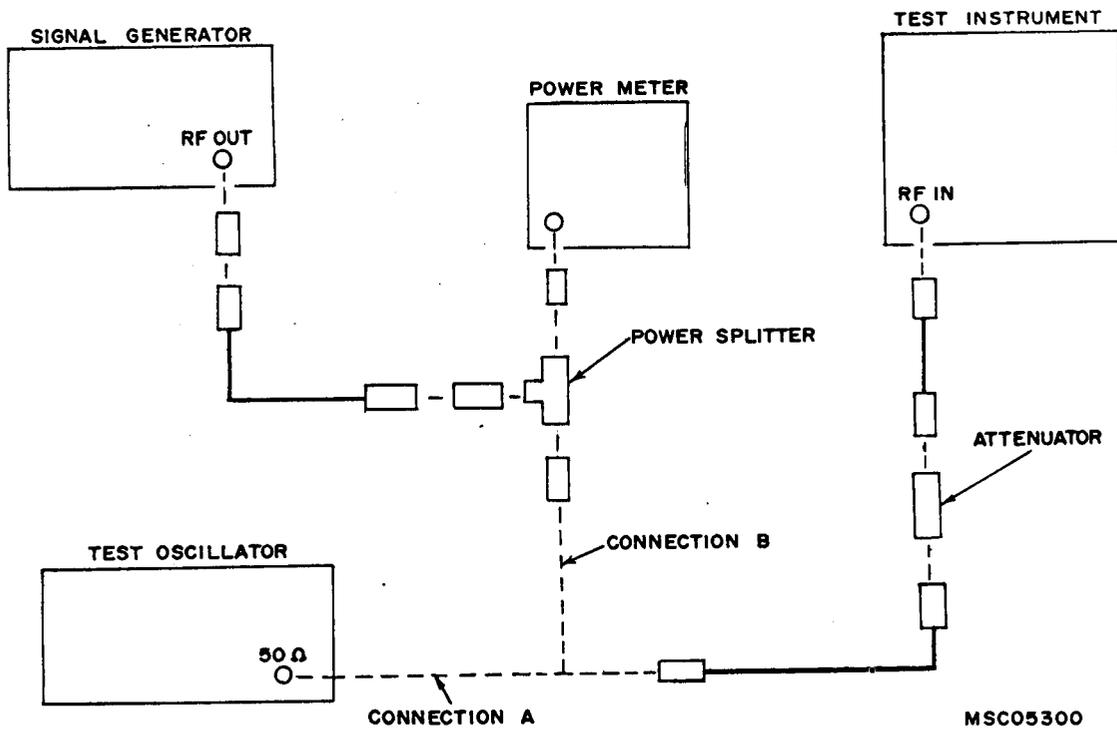

Figure 1. Voltage and attenuation - equipment setup.
(1) Connect equipment as shown in figure 1, connection A.
(2) Position controls as listed in (a) through (c) below:
(3) Set detector function switch to **PEAK**. Press **SHUNT CAL** pushbutton and adjust **CAL** control until meter indicates value shown on left-hand scale of calibration chart (furnished with TI). Release **SHUNT CAL** pushbutton.
(4) Set detector function switch to **CARR**.
(5) Set attenuator to **40 dB**.
(6) Adjust test oscillator frequency to 14 kHz and output for an upper-scale indication on TI meter. Fine tune test oscillator for peak indication.
(7) Adjust oscillator output for a 0-dB indication on TI meter. Add test oscillator output attenuator setting and meter indication to test report of attenuator. Computed result will be between -85.5 and -88.5 dB.
(8) Adjust test oscillator output and attenuator for a +20-dB indication on TI meter. Computed result will be between -65.5 and -68.5 dB.
(9) Repeat (3) through (7) above for TI band switch positions, **FREQUENCY** dial indications, and test oscillator frequencies listed in table 4.
(10) Connect equipment as shown in figure 1, connection.
(11) Set attenuator to **80 dB**.
(12) Set band switch to position **9** and adjust **TUNING** controls for a 10-MHZ indication on **FREQUENCY** dial.
(13) Repeat (3) and (4) above.
(14) Adjust signal generator frequency to 10 MHz and output for an upper-scale indication on TI meter. Fine tune signal generator for peak indication.
(15) Adjust signal generator output for a 0-dB indication on TI meter. Add power meter indication to test report value of attenuator. Computed result will be between -85.5 and -88.5 dB.
(16) Repeat (12) through (15) above for band switch position 10 and a frequency of 25 MHz.
(17) Set attenuator to 60 dB. Repeat technique of (12) through (15) above. Set band switch positions, FREQUENCY dial
(2) Position controls as listed in (a) through (d) below:
(7) Set **ATTENUATOR** switch to **(40/60)** and adjust test oscillator output for a 0-dB indication on TI meter.
(8) Add test oscillator output attenuator setting and meter indication to test report value of attenuator. Computed result will be between -66 and -68 dB.
(9) Repeat technique of (7) and (8) above for **ATTENUATOR** switch settings listed in table 6. Computed results will be within limits specified for frequency being applied.
(10) Set **BAND** switch to position 8 and **TUNING** control for a 4-MHz indication on **FREQUENCY** dial. Set **ATTENUATOR** switch to **CAL (20/40)**.
(11) Repeat (3) through (9) above with test oscillator frequency adjusted to 4 MHz.
(12) Connect equipment as shown in figure 1, connection B.
(13) Position controls as listed in (a) and (b) below: